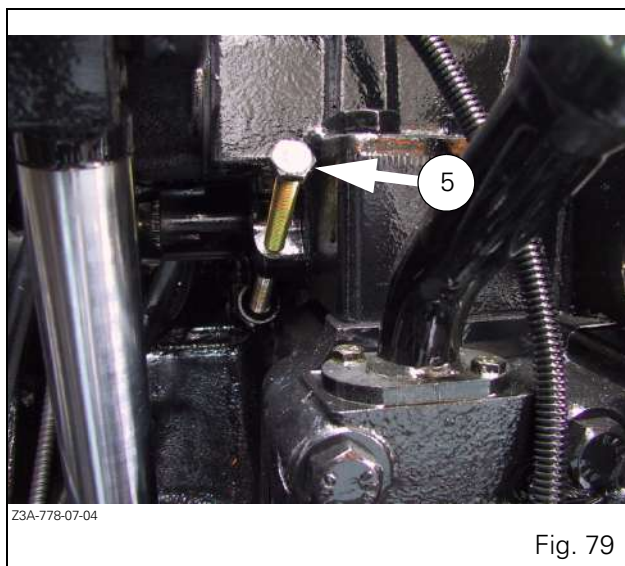

Fig. 79
- refit and tighten the screw Ref. 5 (Fig. 79).